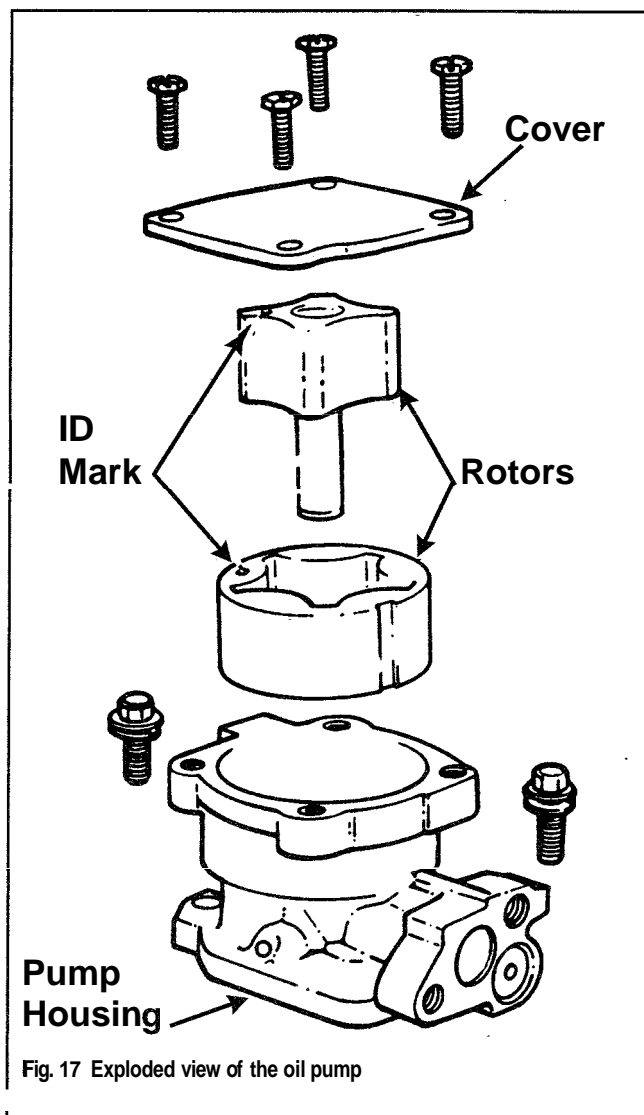

Fig. 17 Exploded view of the oil pump
- ◆ See Figure 17
2. Remove the mounting bolts (2) and pull off the pick-up tube.